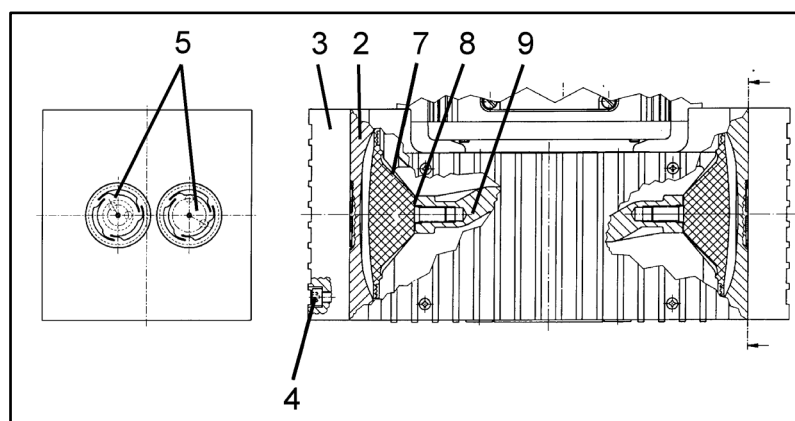
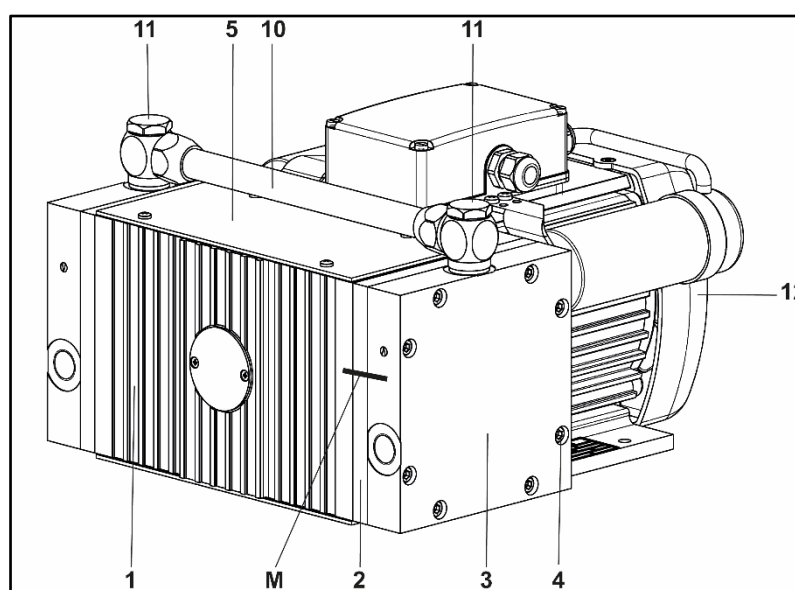

Fig. 8: Pump heads ANE and ATE types (symbolic)
Fig. 9:
The position numbers in the following text refer to Fig. 8 and Fig. 9.
3. Undo the screws that hold the fan cover (see Fig. 9/12) and remove the fan cover from the motor.